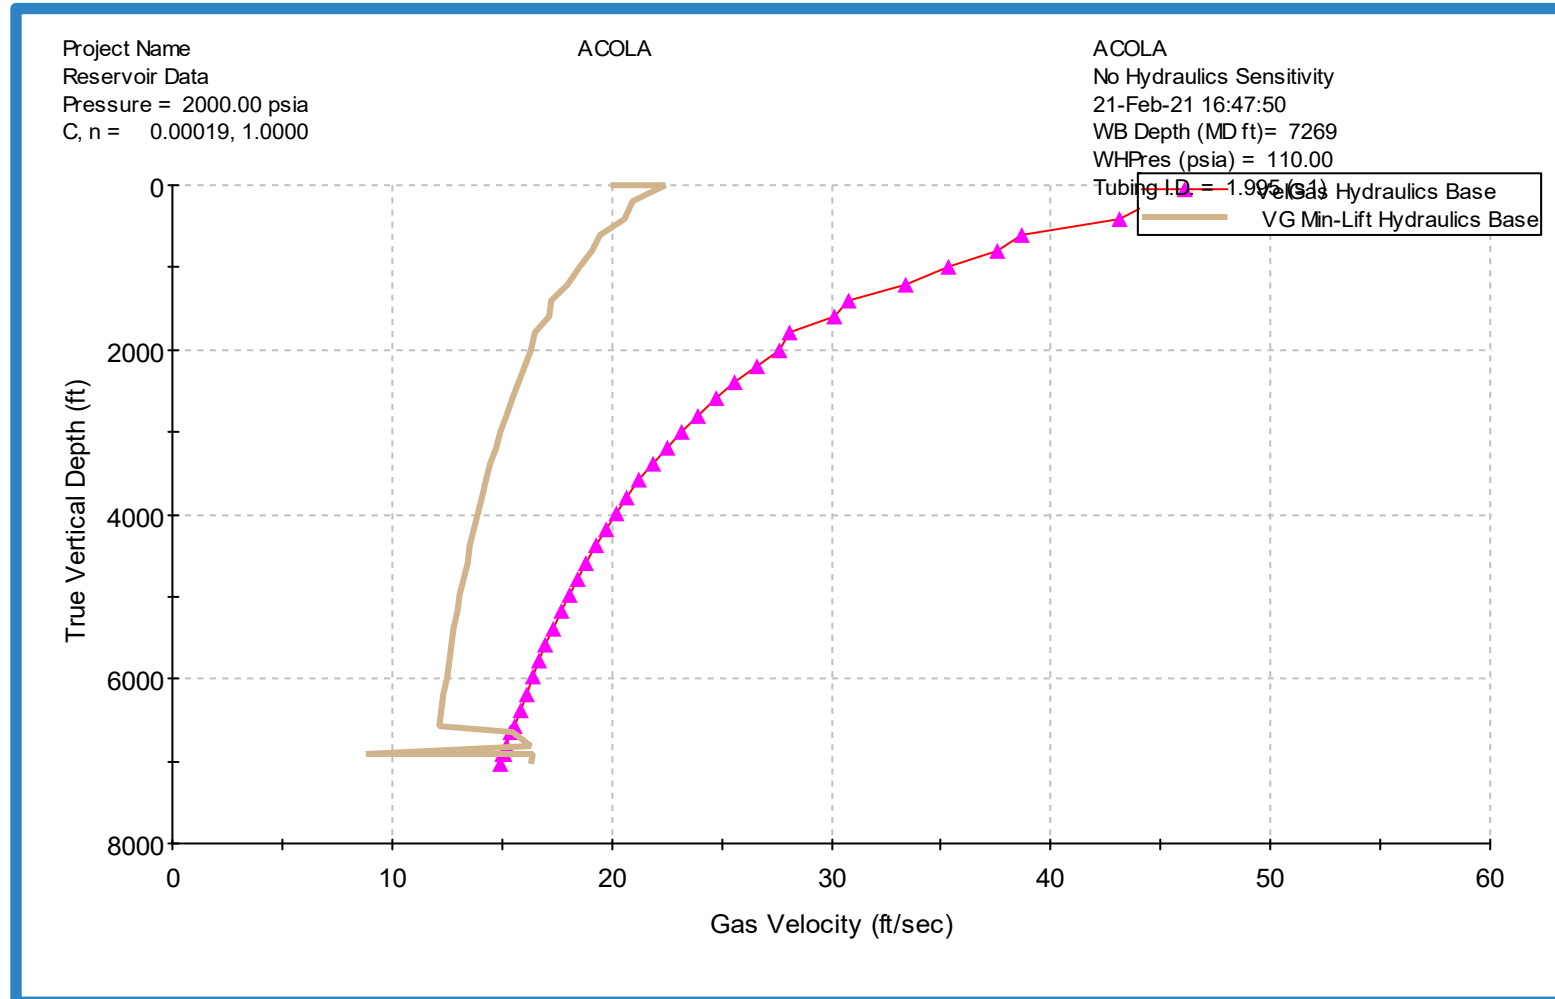

Figure 16: Production data: 4th Well
- ▶ Production data vs. time in shown in Figure 16.